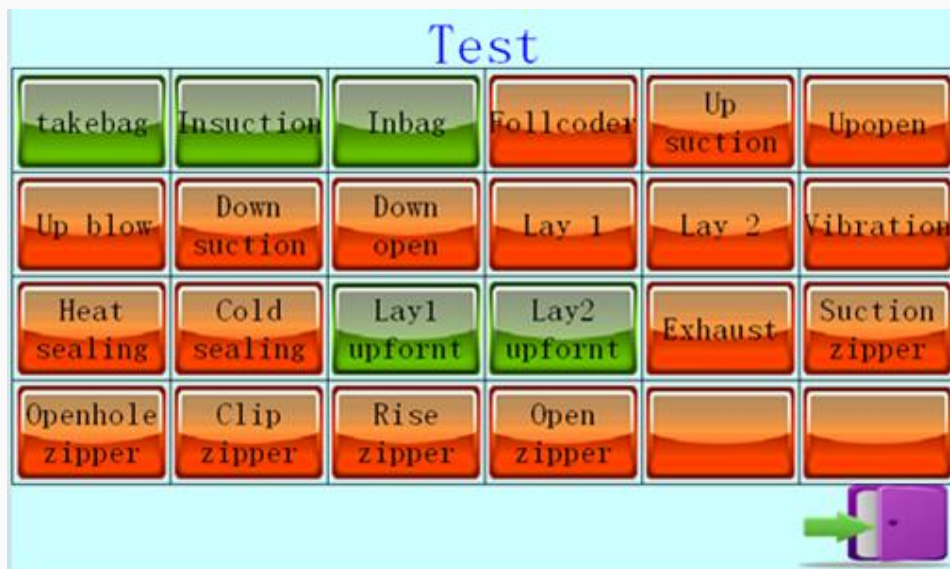

Figure 21
6.2.10 click on the menu options dialog "test picture" button, you can enter the "test scenes" interface (see figure 21).